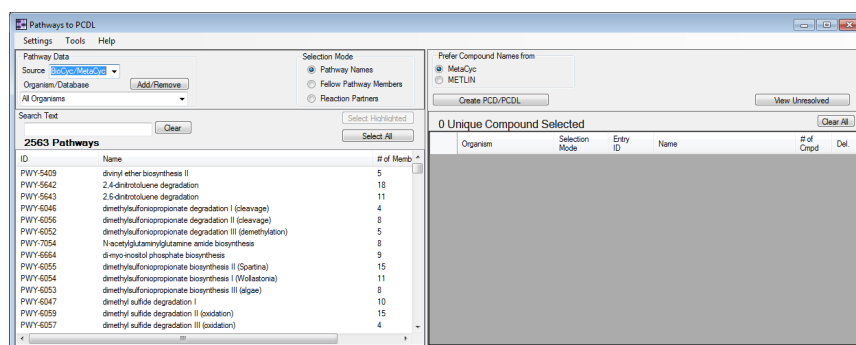

Figure 11 Select pathways source
- Review the updated list of pathways in the display pane (Figure 11). If the pathways list is long, you may want to select an **Organism/Database** and/or enter **Search Text** to reduce the list of pathways.